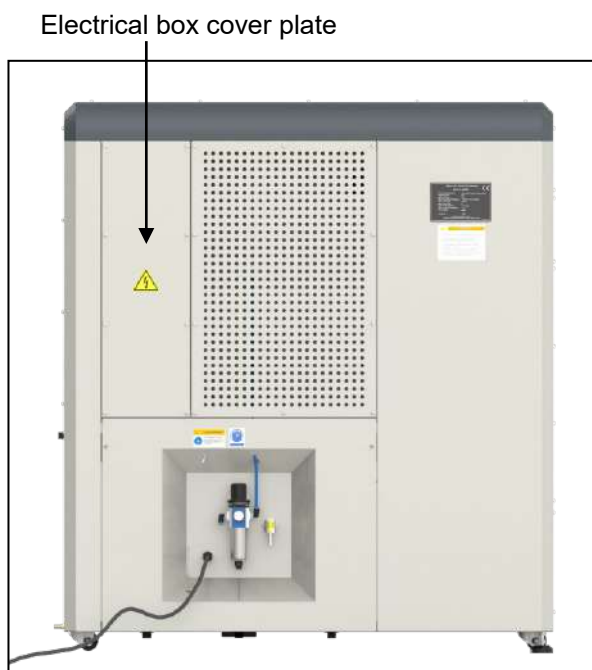
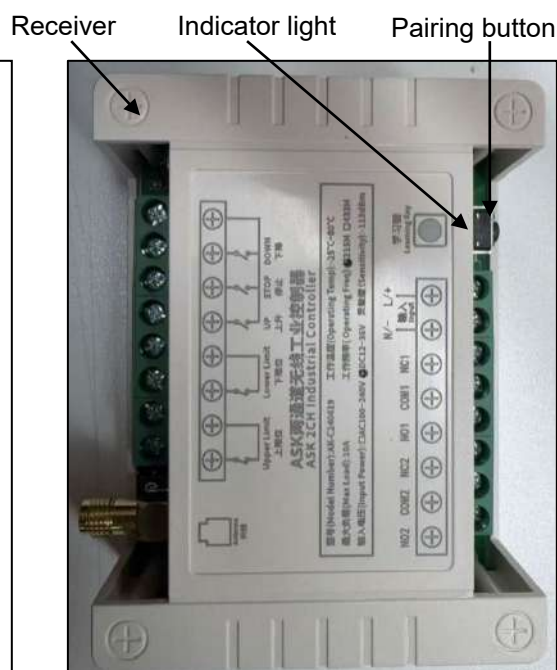

Fig. 13-1
Fig. 13-2
- Before operation, disconnect the power supply, open the electrical box cover plate of the G-800Pro dust processor (**Fig. 13-1**), to expose the receiver (**Fig. 13-2**). The electrical box of the G-700Pro is located on the side of the machine. The opening method is similar.
- Reconnect the power supply. The indicator light on the receiver circuit board (**Fig. 13-2**) will remain lit. Pair the remote control as follows: